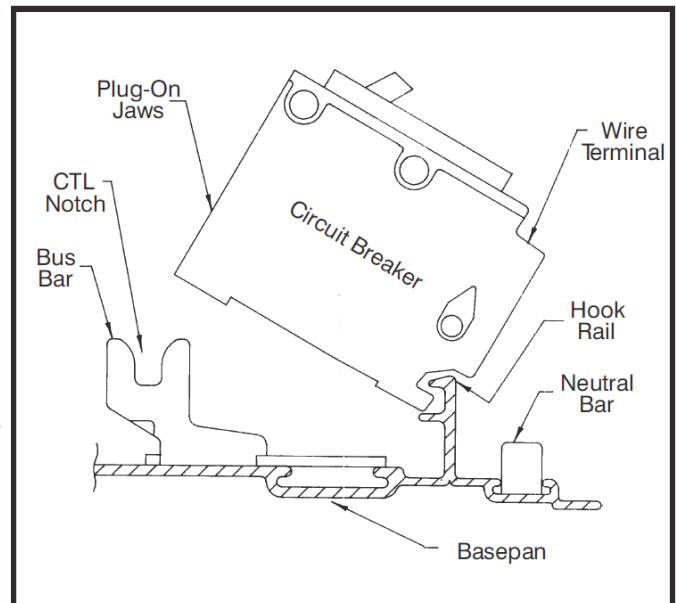

FIG. 1
4. Engage the back of the device with the mounting tabs in the panelboard/load center (Fig. 1).
5. For plug-in devices (fig. 1), push down firmly on the front of the device to engage the load center line terminal stabs.